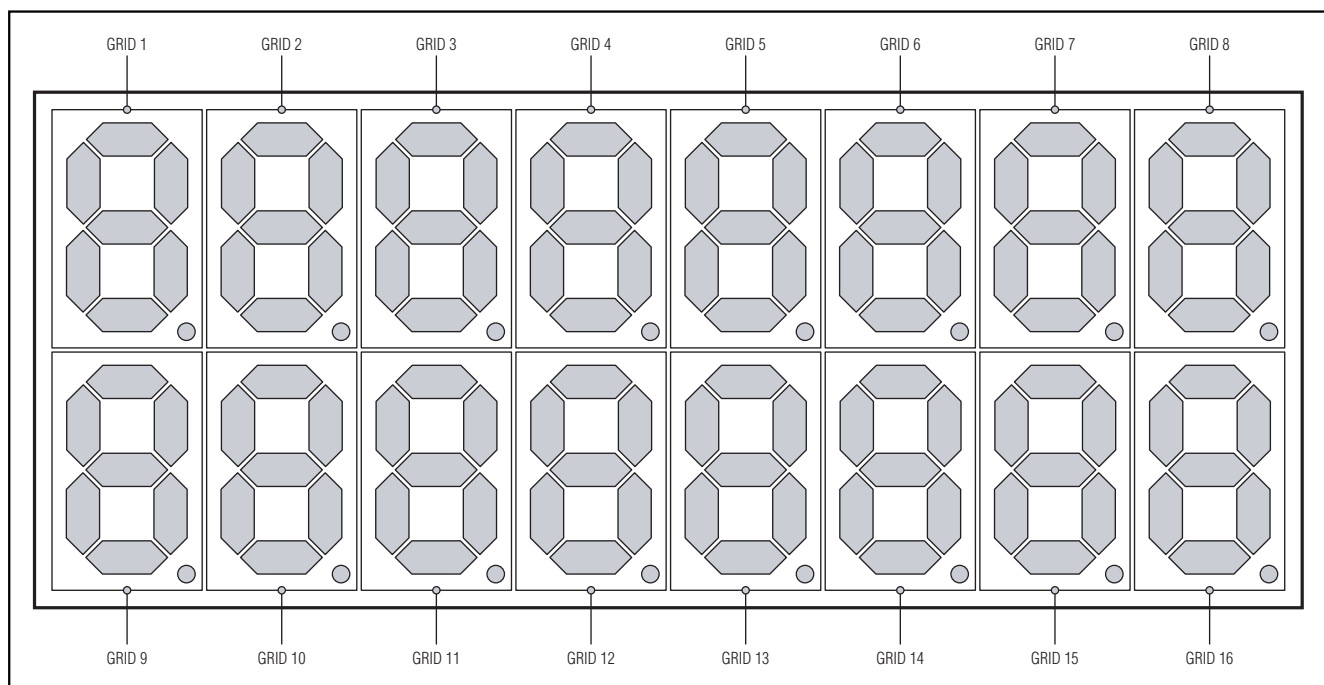

Figure 1. Example of a One-Digit-per-Grid Display
- Multiplexed displays with one digit per grid, and up to 48 grids (in 48/1 mode). Each grid can contain one 7-, 14-, or 16-segment character, a decimal place (DP) segment, a cursor segment, and four extra annunciator segments (Figure 1).